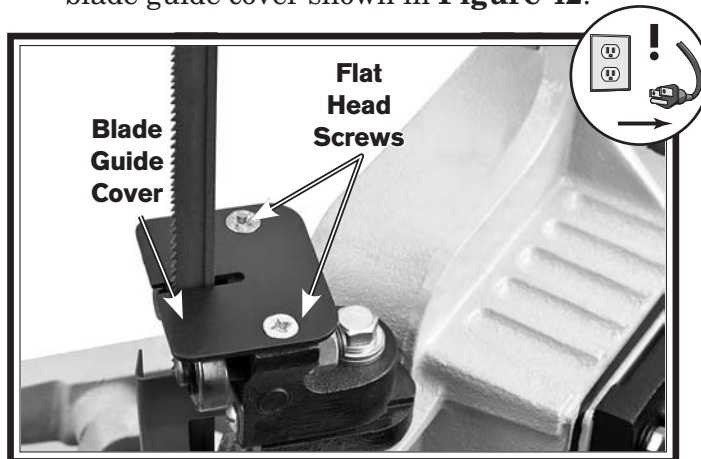

Figure 42. Blade guide cover.
4. Remove the two flat head screws and the blade guide cover shown in **Figure 42**.